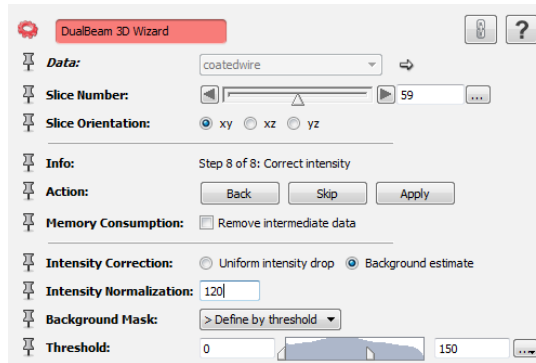

Figure 8.87: DualBeam 3D Wizard properties at intensity correction step.
- Select *background estimate* method. See figure 8.87.